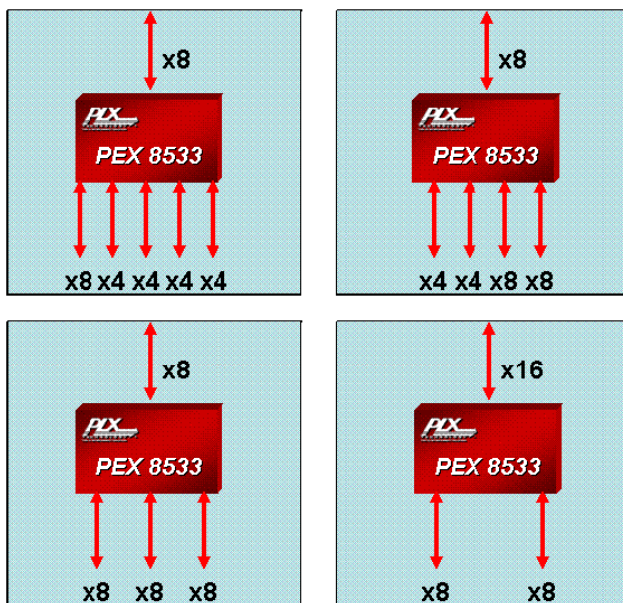

Figure 1. Port Flexibility
The PEX 8533 supports a large number of port configurations. For example, if you are using the PEX 8533 in a fan-out application, you may configure the upstream port as a x8 and the downstream as one x8 port & four x4 ports; two x8 & two x4 ports; or other combinations, as long as you don't run out of lanes (32) or ports (6). For a **dual-graphics application**, you may configure the device as one x16 upstream and two x8 downstream ports (see Figure 1). The device can also support x2 & x1 ports by auto-negotiating its x4 ports to the width of the actual end-device it is interfacing with.